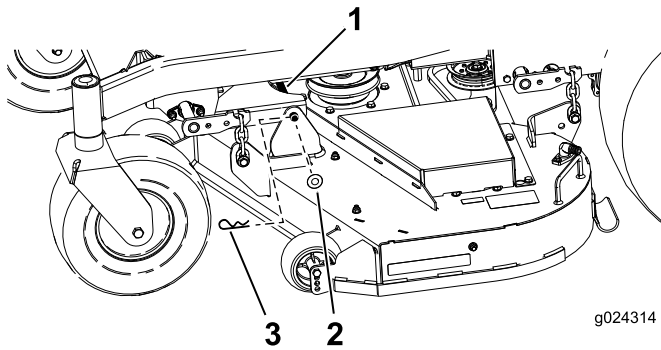

Figure 65
1. Remove the hair pin cotter and washer securing the long, link pin to the frame and deck; remove the link bar (Figure 65).
9. Secure the link bar with the hair pin cotters and washers removed previously (Figure 65).